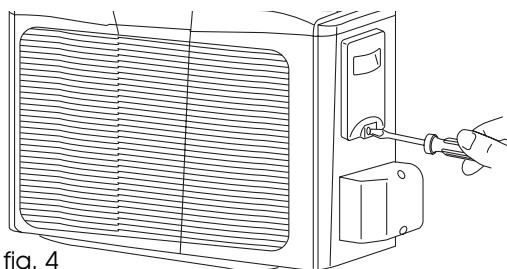

fig. 4
- 2) Remove the protection from the electrical connections on the external unit by undoing the screw. (Fig. 4)